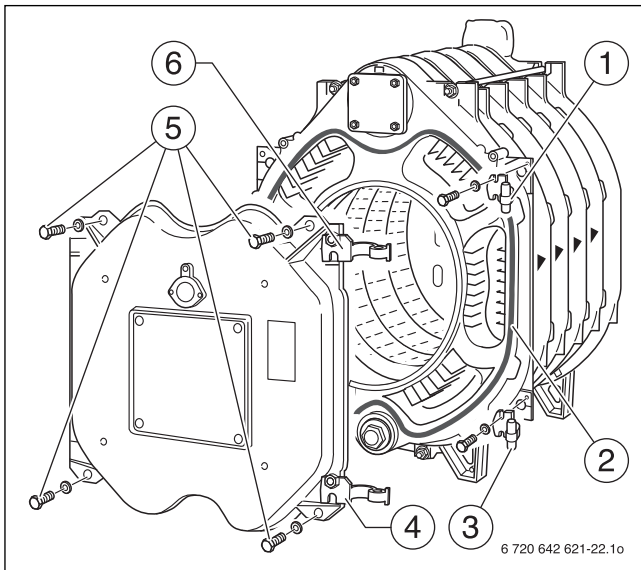

Fig. 31 Hooking in the burner door
In the factory, the burner door is mounted with the hinges on the right hand side (Fig. 31, [4 and 6]). For left-hand closing, remove the hinges accordingly on the left-hand side of the burner door.
- ▶ Screw the hinge pins (Fig. 31, [1 and 3]) to the front boiler section with 2 M 12 x 50 machine screws in each case. This is shown in Fig. 31 for the right-hand closing version. For left-hand closing, secure hinge pins accordingly on the left-hand side.
- ▶ Affix Ø 18 mm diameter GP cord in the front section using adhesive. The sealant rope joint should be located at the side (Fig. 31, [2]).